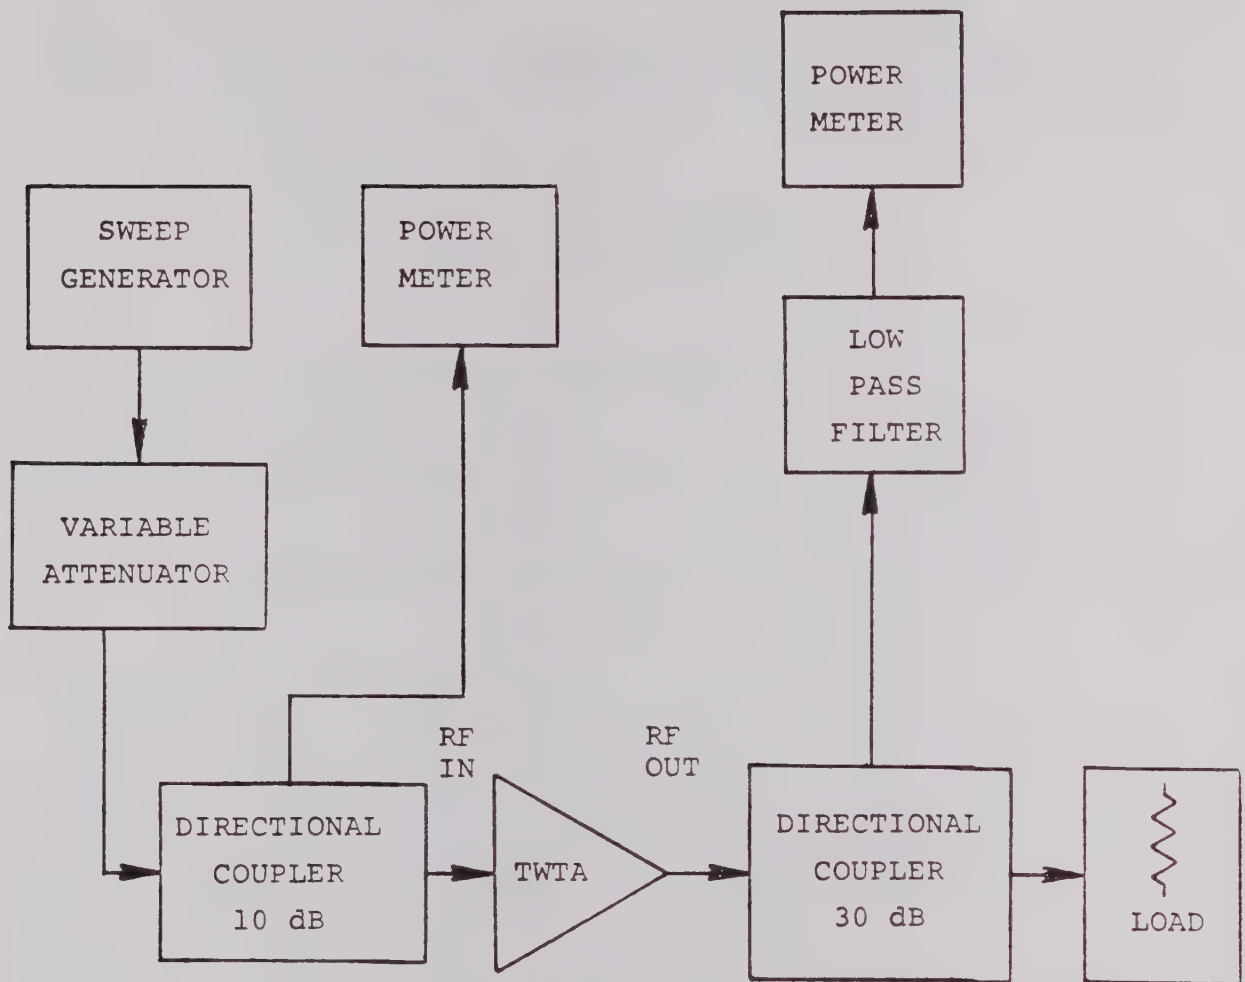

FIGURE 6-10 MICROWAVE MEASUREMENTS CIRCUIT
1. Set up a microwave measurement circuit, such as the one shown in Figure 6-10.